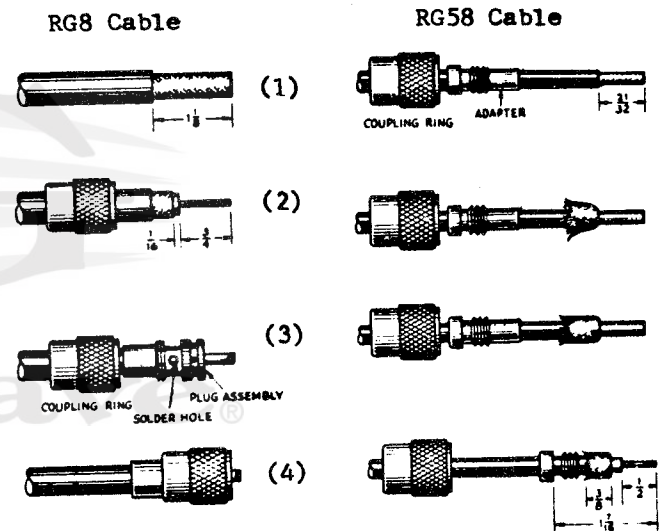

Figure 2-2. Connector Assembly
The procedure for installing a PL-259 (83-1SP) antenna connector is dependent upon type co-axial cable used; the PL-259 is installed directly on 0.405" OD cable such as RG8/A, whereas, the plug requires an adapter when used with the 0.195" OD cable such as RG58/A. The procedures for both cable types are given below, and shown in Figure 2-2.
1. Trim end of cable flush; remove vinyl jacket from 1-1/8" of cable as shown in Figure 2-2(1). DO NOT nick braid.
2. Bare 3/4" of center conductor. Trim braided shield 1/16" and tin. Slide coupling ring on cable. See Figure 2-2(2).
1. Trim end of cable flush; remove vinyl jacket from 21/32" of cable as shown in Figure 2-2(1). DO NOT nick braid. Slide the coupling ring and adapter on cable.
2. Fan braid slightly and fold back over cable. See Figure 2-2(2).
3. Compress braid around cable, Figure 2-2(3), and position adapter to the dimension given in Figure 2-2(4). Press braid over adapter sleeve and trim to dimension shown.